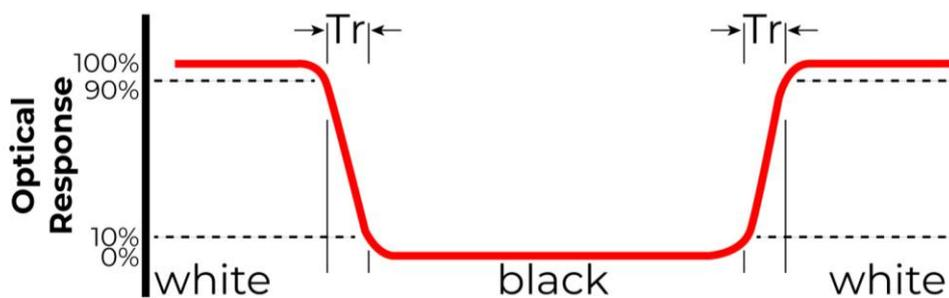

Figure 1. The definition of response time
**Note 4.** Response time is the time required for the display to transition from white to black (Rise Time,  $T_r$ ) and from black to white (Decay Time,  $T_f$ ). For additional information see Figure 1. The test equipment is BM-7A.